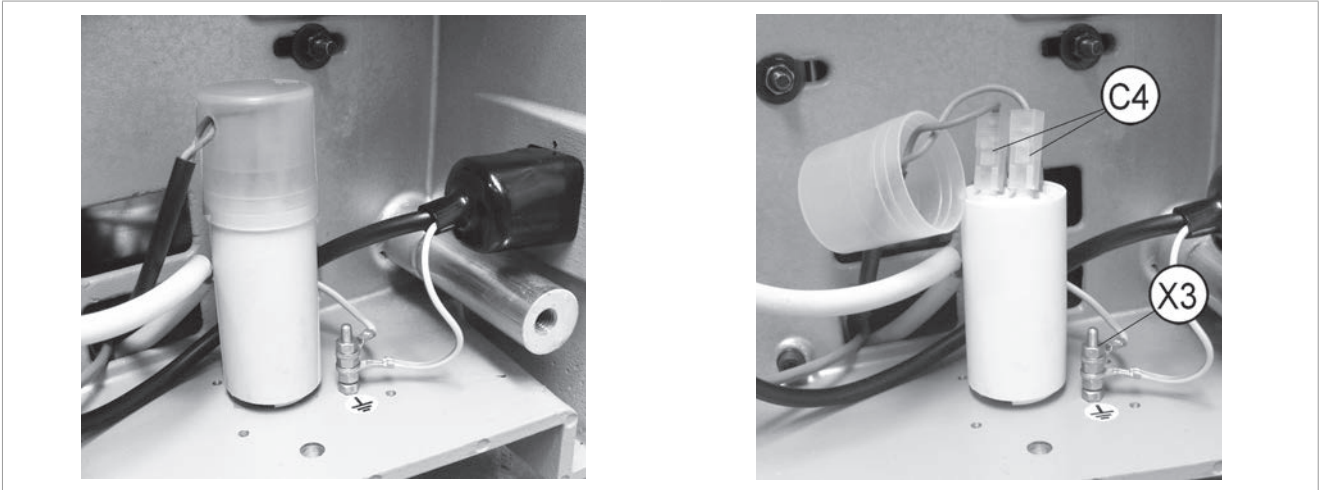

Fig.78
- 2) Remove the condenser cap and disconnect the 2 connectors (C4) (Fig.78) observing their position carefully.